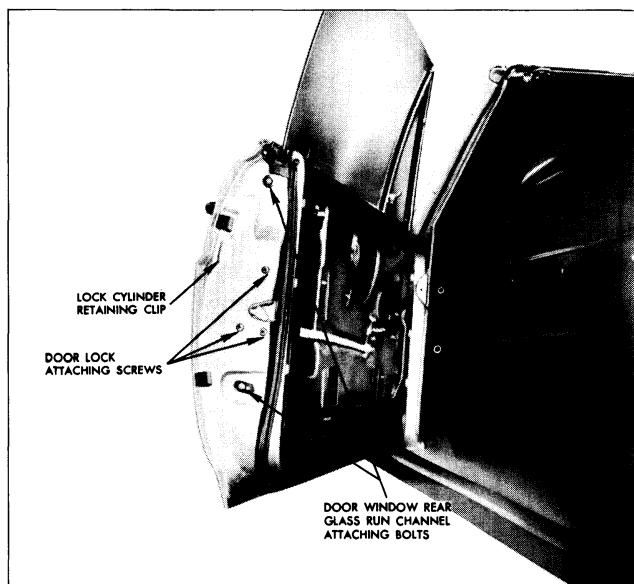

Fig. 12-31
2. With a screwdriver, or other suitable flat-bladed tool, slide lock cylinder retaining clip (located on door lock pillar panel) out of engagement sufficiently to allow removal of cylinder and remove cylinder and gasket (Fig. 12-31).
3. Remove upper and lower bolts securing run channel to lock pillar panel and remove (Fig. 12-31).